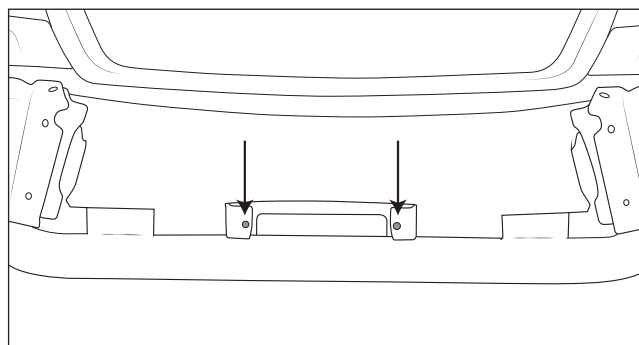

Figure 7
7. Remove Cage nuts in bumper for winch fairlead (fig. 7).